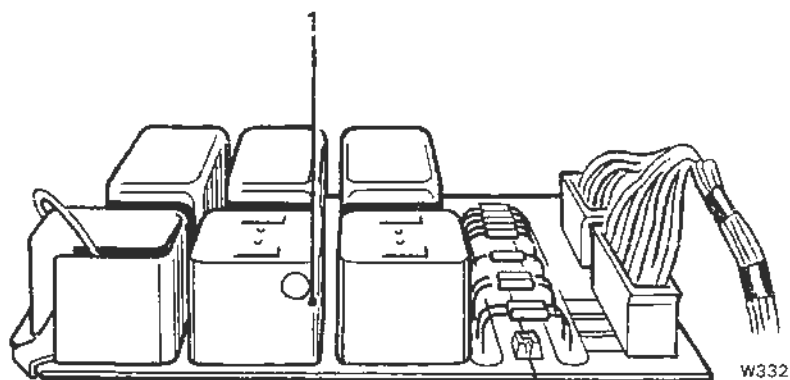

Figure 3 Printed circuit board
- 5 A hole is provided on the right-hand corner of the amplifier (see fig.3 to gain access to the adjustment screw. The screwdriver used for adjusting the amplifier must have a blade which is not in excess of 2mm (0.078in) in width.